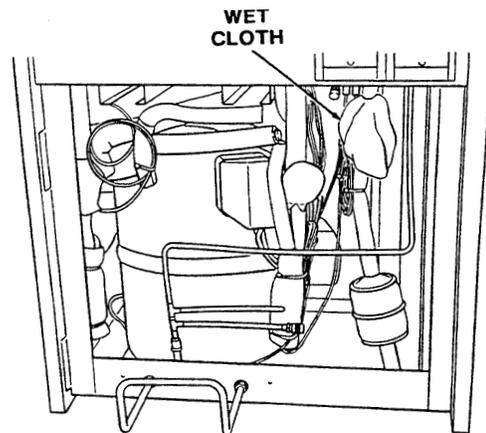

Figure 42. E.P.R. Valve and Lines
1. Position the E.P.R. valve, with heatsink, so hopper evaporator outlet line and the line leading to the low side of the system correspond with the proper valve ports (Figure 42).